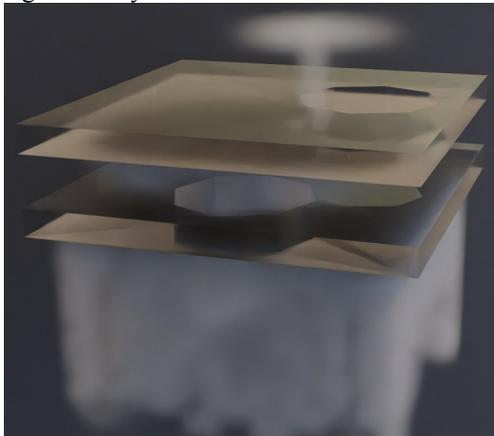
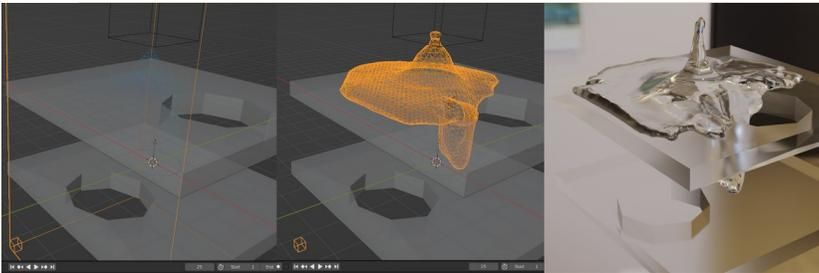

Figure 11-1 Smoke Simulation Rendered with Cycles
Figure 11-2 Stages to Achieve Liquid Simulation
2. In order to deflect the smoke you need to add a mesh object and define it as an *Effector*. Add a new cube object to the scene, scale it up so it is the same width as the fluid domain then scale it down in the Z direction so it's about half the height of the start cube. Move the new slab object up so it's about a third of the way between the start cube and the top of the domain. In Figure 11-1 you can see the size and location I used.
4. Now make a hole in the slab about a quarter of its overall width and over to one side, again, you can see the proportions I used in Figure 11-1 and Figure 11-2. The simplest way to make the hole is to add a cylinder to the scene, reduce the Vertices to 8 in the Adjust Last Operation panel then, when it is suitably scaled and positioned, apply it as a boolean difference modifier to the slab. In order to see the smoke flowing around the baffle add a new material to it, change the shader to **Glass BSDF** and reduce the IOR to **1.01**. Duplicate the slab, move it up and rotate it 90 degrees about the Z axis. You may once again have to force a re-bake of the fluid simulation to see the effect of these double baffles.
4. The domain also needs to be changed from Domain Type Gas to **Liquid**. This might make it appear solid again in the viewport display, in which case open the Object Properties tab and under Viewport Display change Display As to **Wire**. Move the Timeline to frame 1, force the simulation to re-bake if required, and you should see a box-full of generally blue particles flow out over each baffle, draining through the holes and gradually flooding the bottom of the domain. The left of Figure 11-2 shows the simulation part way through.
5. To make the liquid actually look like a liquid you need to specify it as a mesh by ticking the check-box in the domain object Physics Properties tab, and you also need to go back to frame 1 and re-run the animation. The middle of Figure 11-2 shows the same frame but with the liquid as a mesh. At this point you may decide, as I did, that the droplets are too coarse, so increase the Resolution Divisions to 64. Changing this value will trigger a re-bake of the simulation so you don't need to do anything apart from return the frame pointer back to frame 1. Notice how much slower the first run through the animation is.
6. Once the animation has run and the cache has been re-baked, you need to do a few more things to make the liquid look like water. First, in the Object Properties tab for the domain change the Display As setting back to **Solid**, it only needed to be wire to allow you to see the blue particle simulation stage. Next open the Material Properties tab and change the surface shader to **Glass BSDF**, giving it an IOR of **1.33**. When you view this as a render preview, with the cycles render engine, it should look a little bit more watery but rather lacking in reflections and somewhat turbid. That's because the quick smoke effect added a volume shader to the material, so remove that. You should also set the object shading to smooth and, to provide some more interesting reflections, change the world background color to an environment texture. The right side of Figure 11-2 shows the final render.